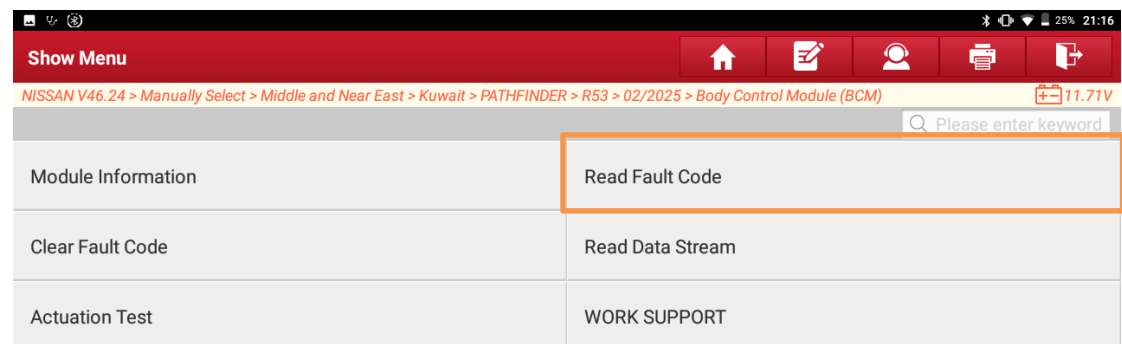
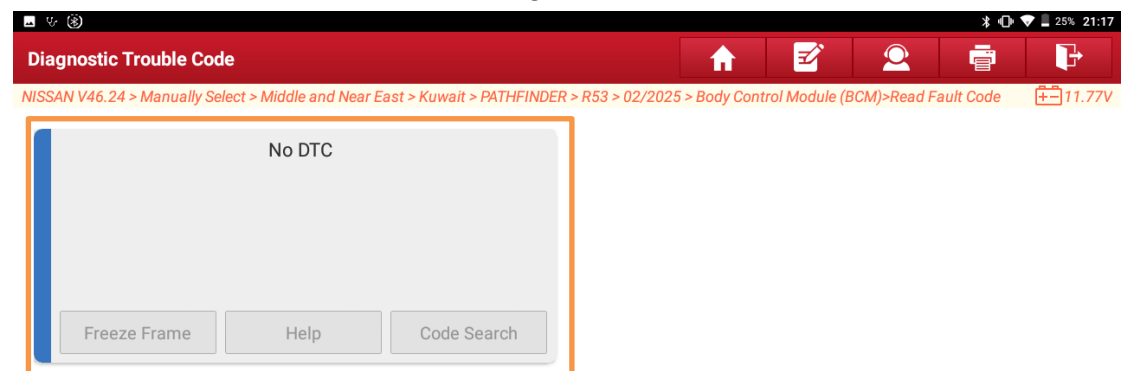

Figure 22
Figure 23
- On the BCM menu interface, choose [Read Fault Code] (Figure 22) to read the BCM DTC information. No DTC is displayed (Figure 23), indicating that ID registration is successful. The ID registration special function operations are now completed.